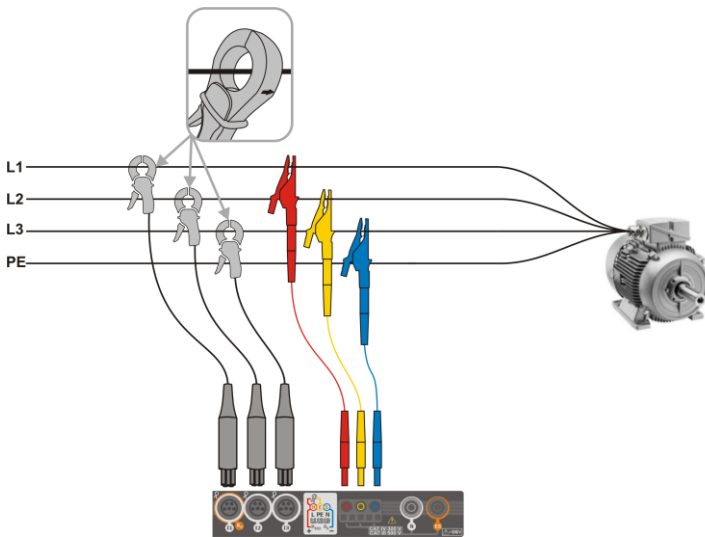
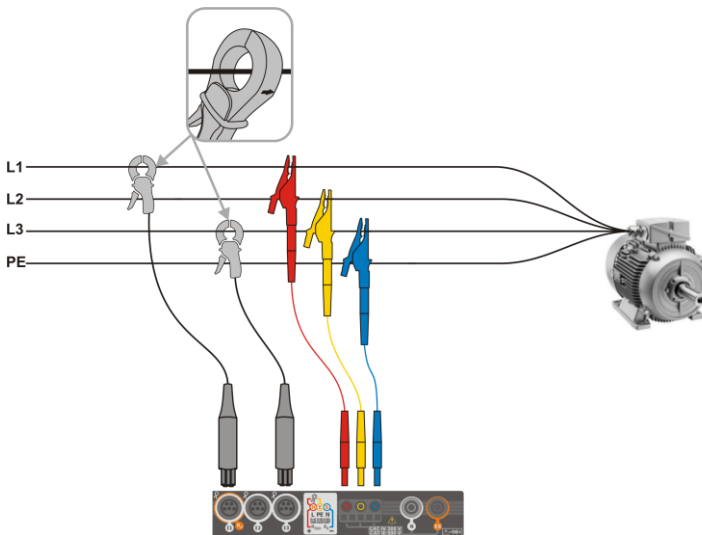

Fig. 4.6 Wiring diagram – 3-phase with three operating wires
Fig. 4.7 Wiring diagram – 3-phase with three operating wires (measurement of currents using Aron method)
- 3-phase 3-wire (Fig. 4.6, Fig. 4.7).
In three-wire AC systems, current may be measured by the Aron method (Fig. 4.7), which uses only two clamps that measure linear currents I_{L1} and I_{L3} . I_{L2} current is then calculated using the following formula: